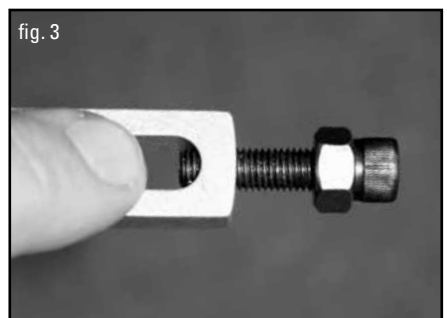

fig. 4
Step 4: Install the PTX™ Powder Measure Stop over the hex spring mount with the cap screw that is protruding on the top (fig. 4).